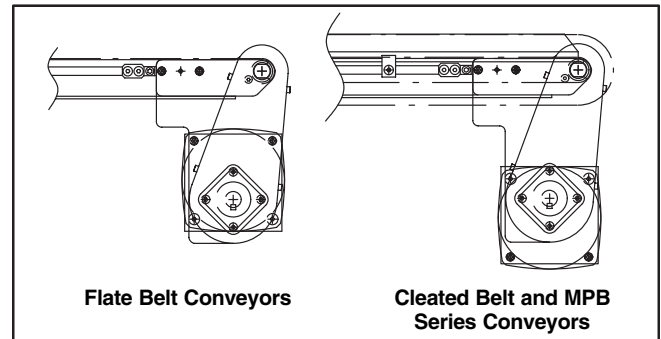

Figure 30
*Gearmotor position on Flat Belt conveyor shown at left (**Figure 30**). Gearmotor position on Cleated Belt or MPB Series conveyor shown at right (**Figure 30**).*